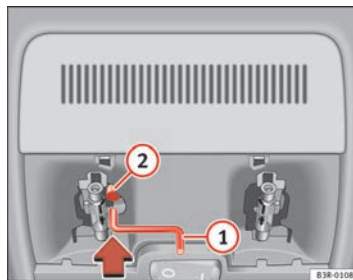

Fig. 84 Detail of headliner: Crank handle for manual operations
- Insert the crank handle ① all the way into the hexagonal socket
② ⇒ page 114, fig. 84.